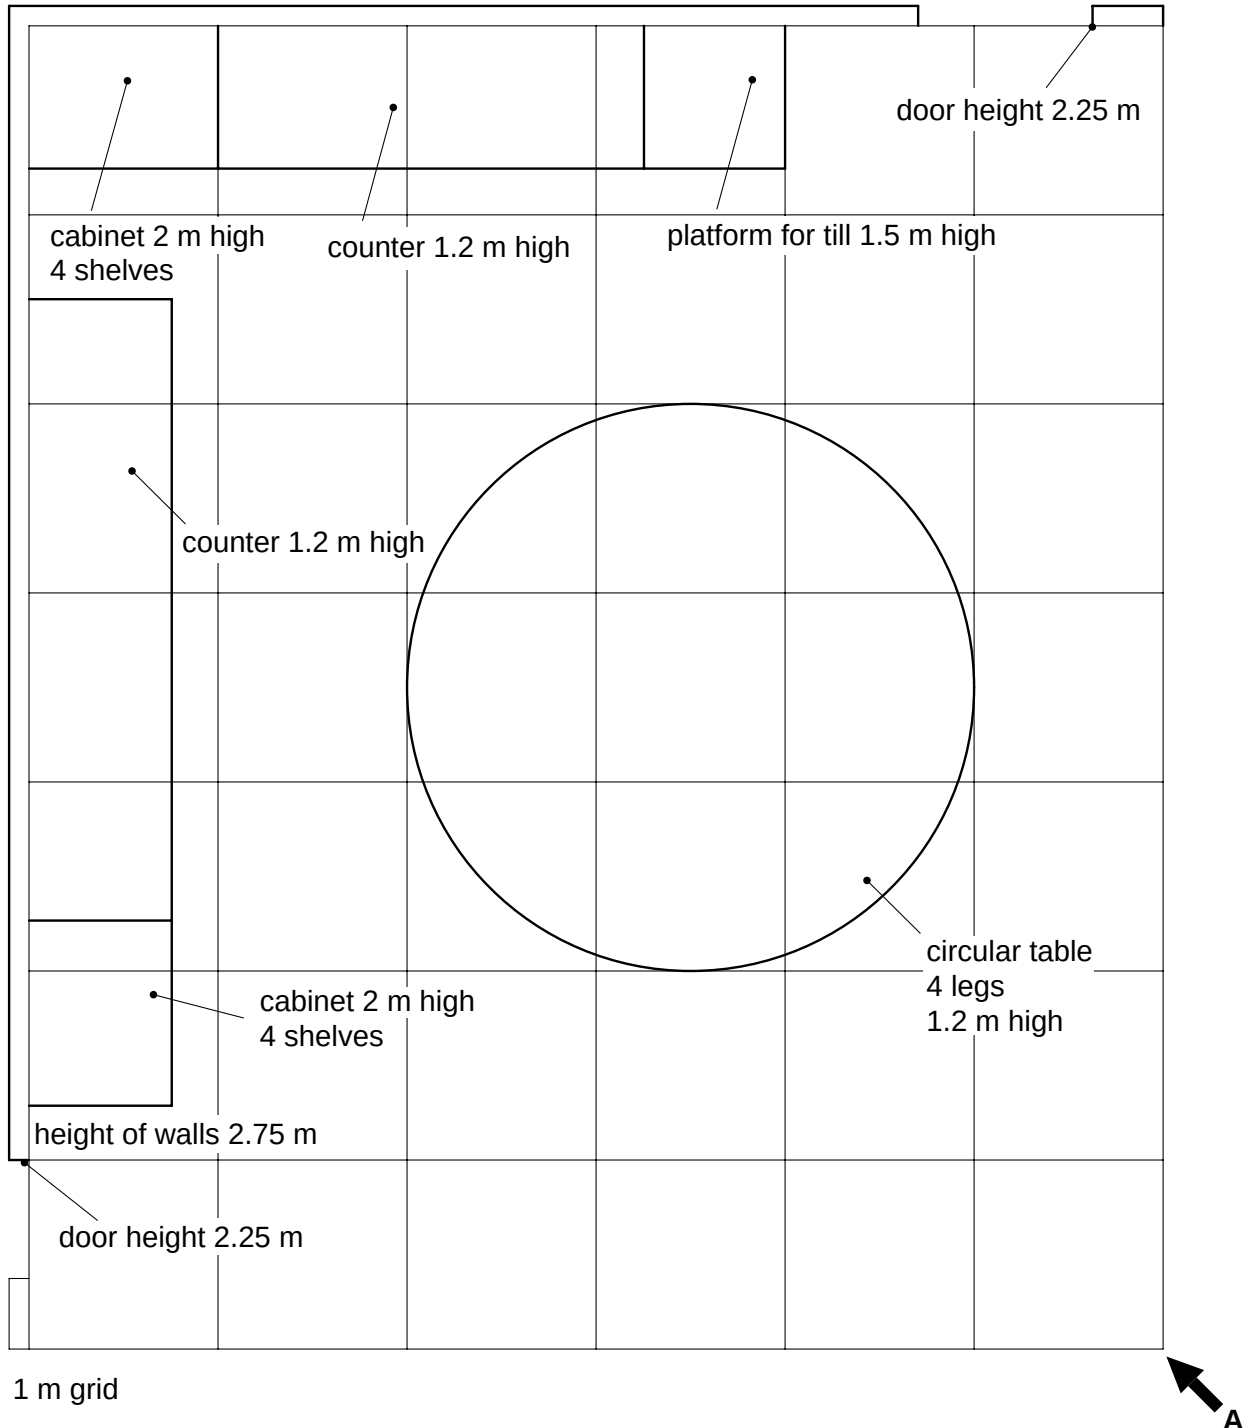

Fig. 5
- 7 Fig. 5 shows a plan view of the design of a 'Coffee Shop' to be used by senior students in a school.